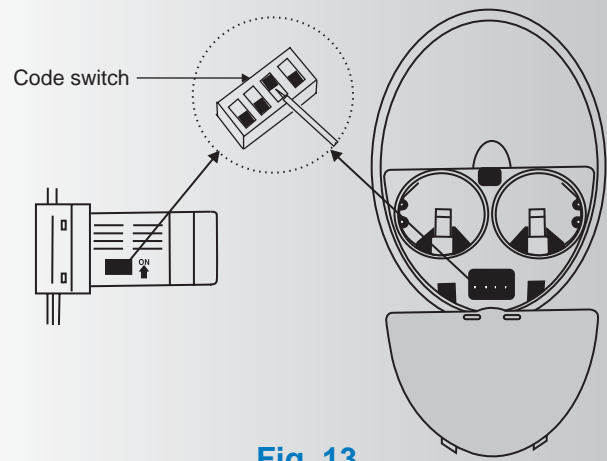

Fig. 13
**NOTE:** The CoolTouch™ control system is equipped with 16 code combinations to prevent possible interference from or to other remote units. The frequency switches on your receiver and transmitter have been preset at the factory. Please recheck to make sure the switches on transmitter and receiver are set to the same position, any combination of settings will operate the fan as long as the transmitter and receiver are set to the same position. (Fig. 13)